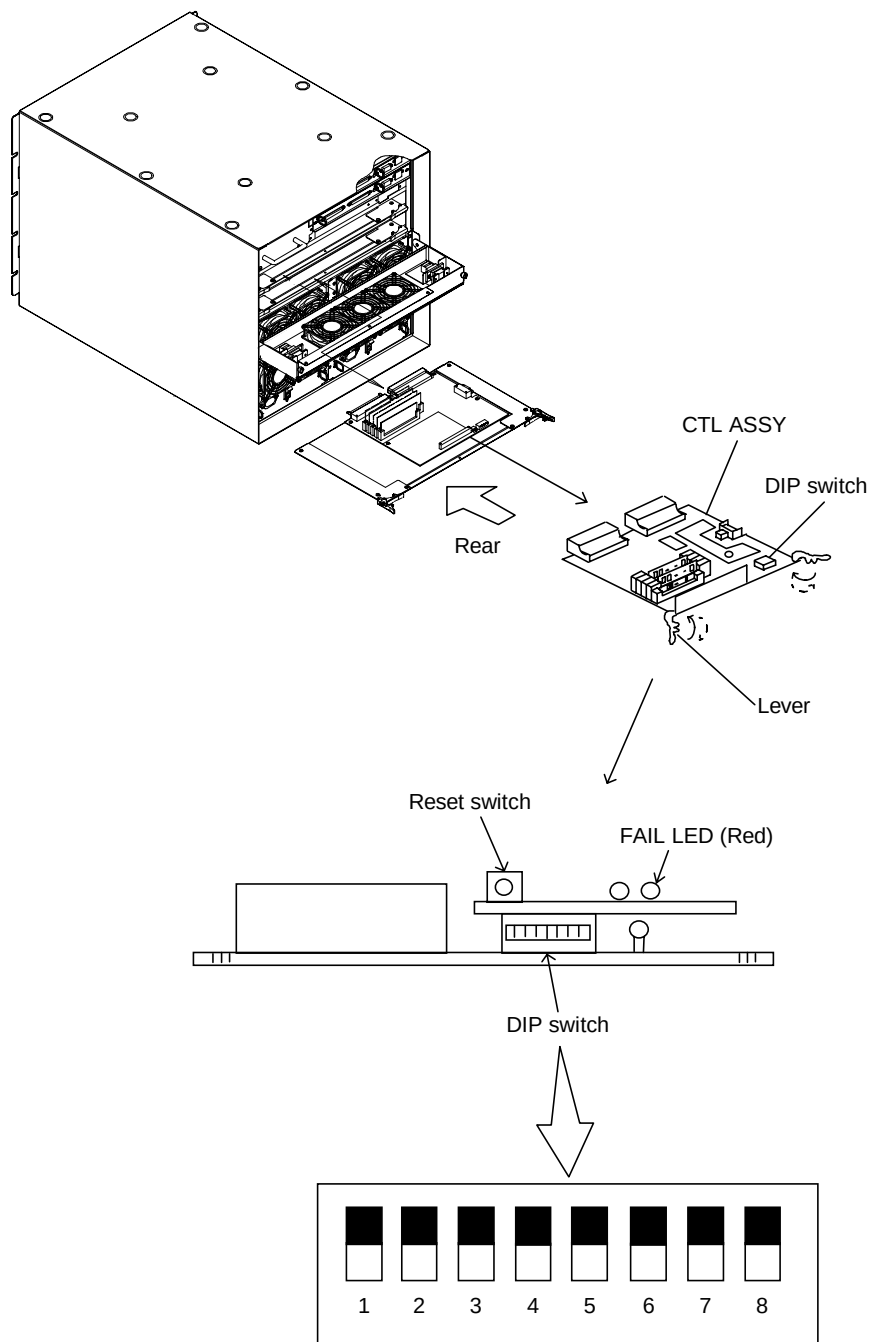

Figure 8.2.1 Replacing CTL ASSY
(1) Removing procedure
- ① First open the side cover 1 and then the side cover 2. (See RW-REP0170.)
- ② Disconnect the cables (RS232C).
- ③ Confirm the blocked CTL ASSY (with the FAIL LED turned on). (See Figure 8.2.1.)
- ④ Take out the CTL ASSY by pulling both levers on left and right side at the same time toward the directions shown by allows (·····➤)
- ⑤ Remove the CACHE ASSY. If the LAN ASSY is installed, also remove it.
(2) Installing procedure